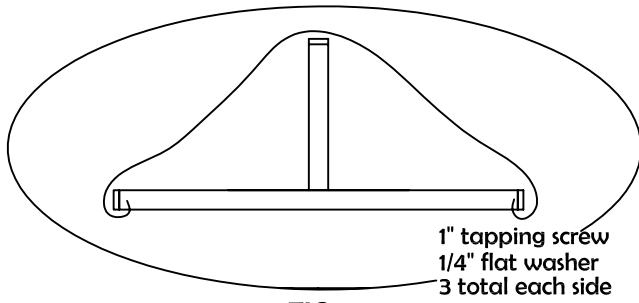

FIG. 11
Step 1: Drape tarp over tarp support 'K' and end caps 'U'. Attach to inside of end caps 'U' with (3) 1" tapping screws per side. See Fig. 11 & 12.